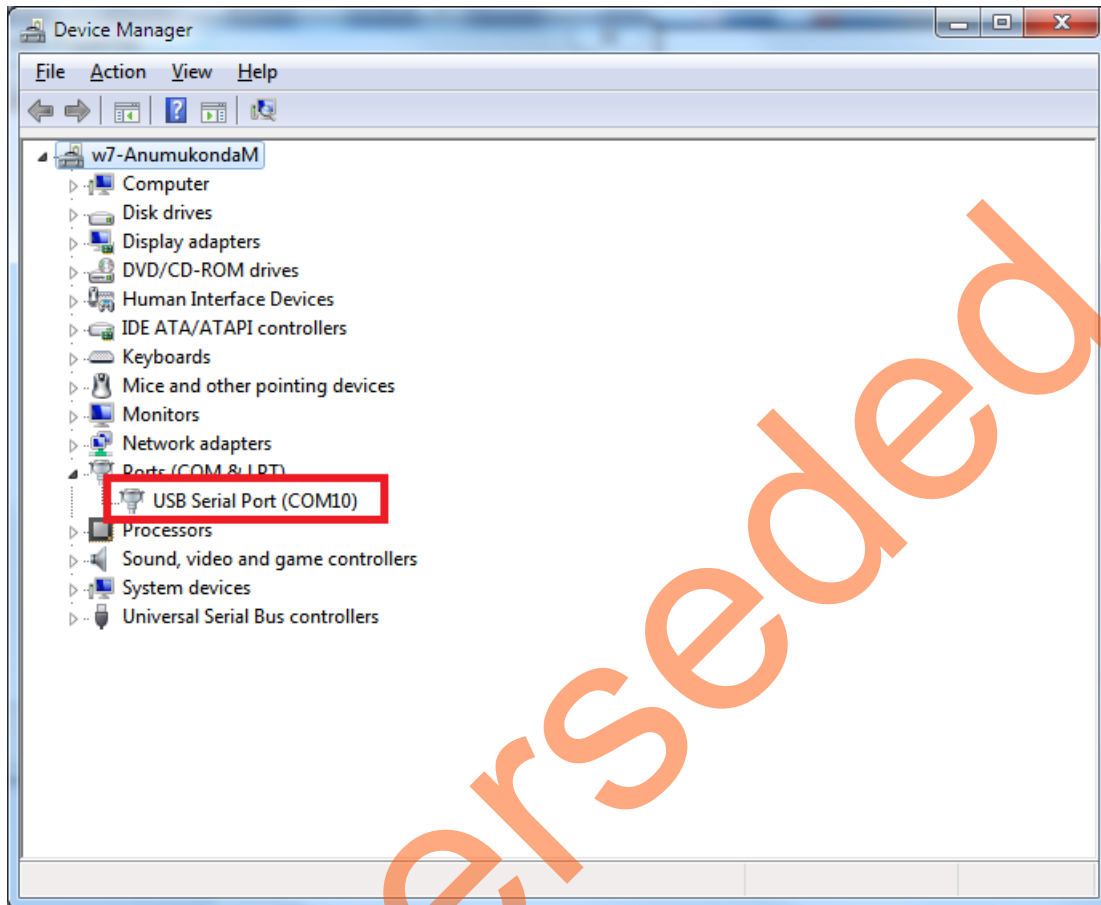

Figure 6 • USB to UART Bridge Drivers for SmartFusion2 Starter Kit
4. Ensure that the USB to UART bridge drivers are automatically detected. This can be verified in the **Device Manager** of the Host PC. Figure 6 shows the USB Serial port.